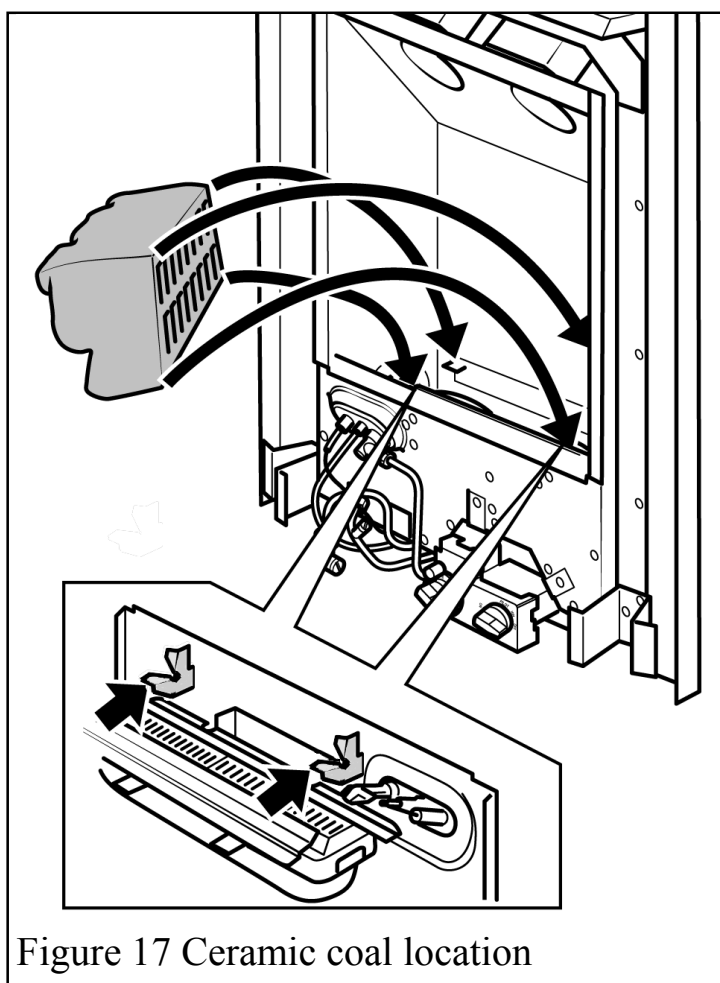

Figure 17 Ceramic coal location
- Fit the ceramic coal into the fire above the burner. The front of the ceramic coal should locate on the horizontal faces but behind the vertical faces of the two location brackets positioned at the front of the burner module. See figure 17.